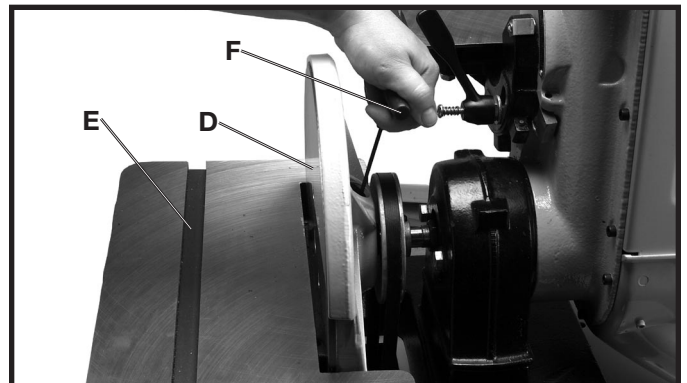

Fig. 22
3. Using wrench (F) Fig. 22, loosen the two screws on hub of sanding disc and move the disc (D) in or out on the shaft as needed.
**NOTE:** After this adjustment is made, make certain the miter gage slot (E) Fig. 22 is parallel with the disc (D) by following the instructions in "ADJUSTING MITER GAGE SLOTS PARALLEL WITH THE BELT AND DISC."